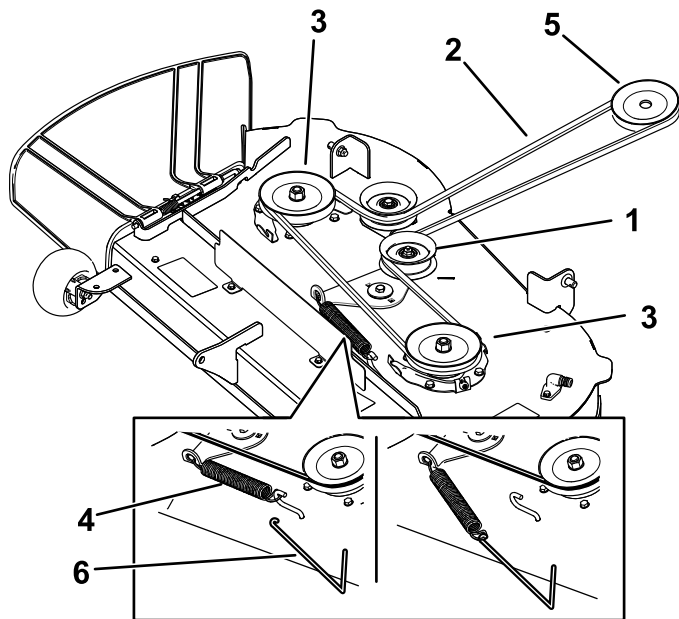
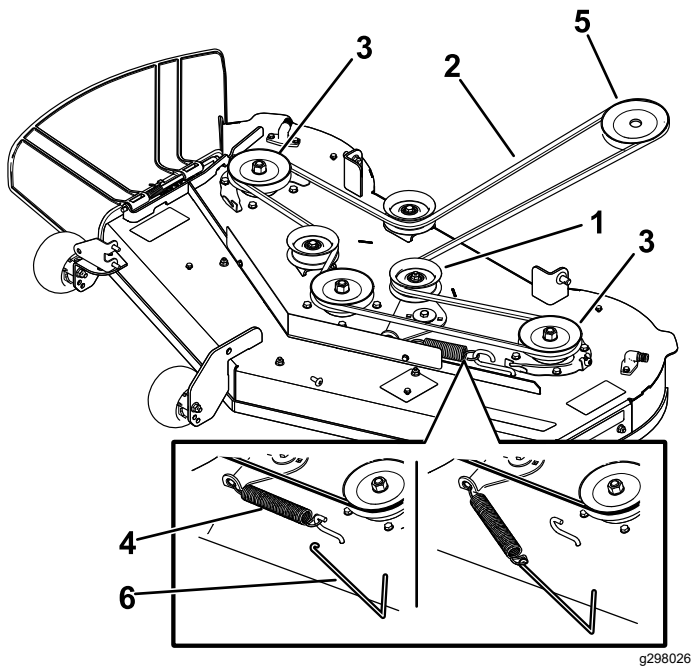

Figure 52
Figure 53
6. Using a spring-removal tool (Toro Part No. 92-5771), remove the idler spring from the deck hook to remove tension on the idler pulley, and roll the belt off the pulleys (Figure 52 or Figure 53).
7. Route the new belt around the engine pulley and mower pulleys (Figure 52 or Figure 53).
8. Using a spring-removal tool (Toro Part No. 92-5771), install the idler spring over the deck hook and place tension on the idler pulley and the mower belt (Figure 52 or Figure 53).